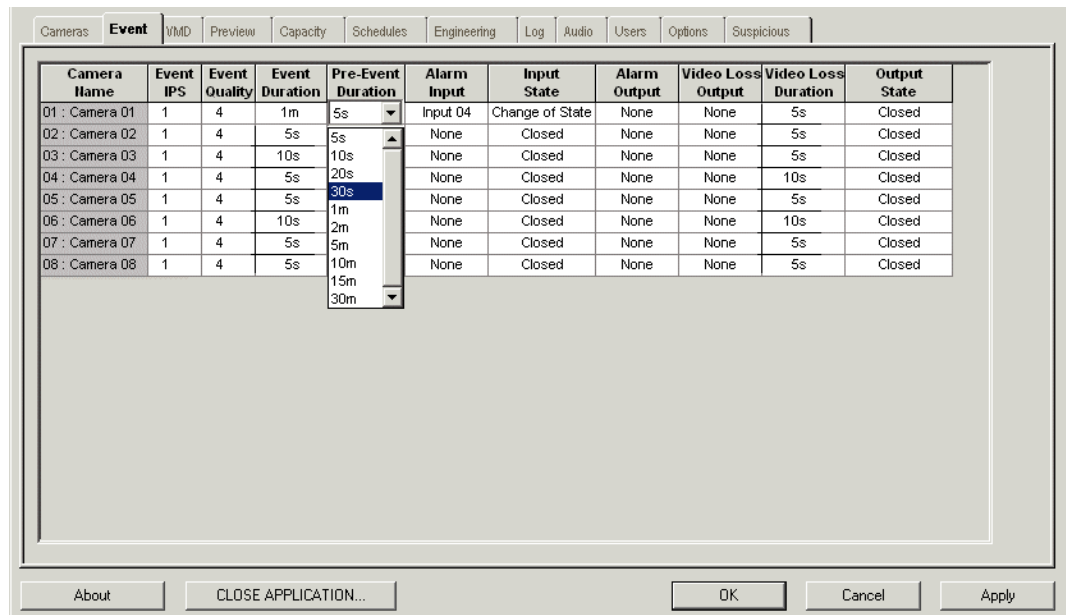

Figure 6-11: Configuring event-based recording for a camera
1. On the **Event** menu of the Configuration Console (shown in Figure 6-11 on page 55), click in the **Alarm Input** field of the camera with which you want to associate the alarm input . . .
In Figure 6-11 below, several of the cameras have been set to record at the maximum rate of 25 ips and at quality 1. It would require far too much disk space to record constantly at these levels.